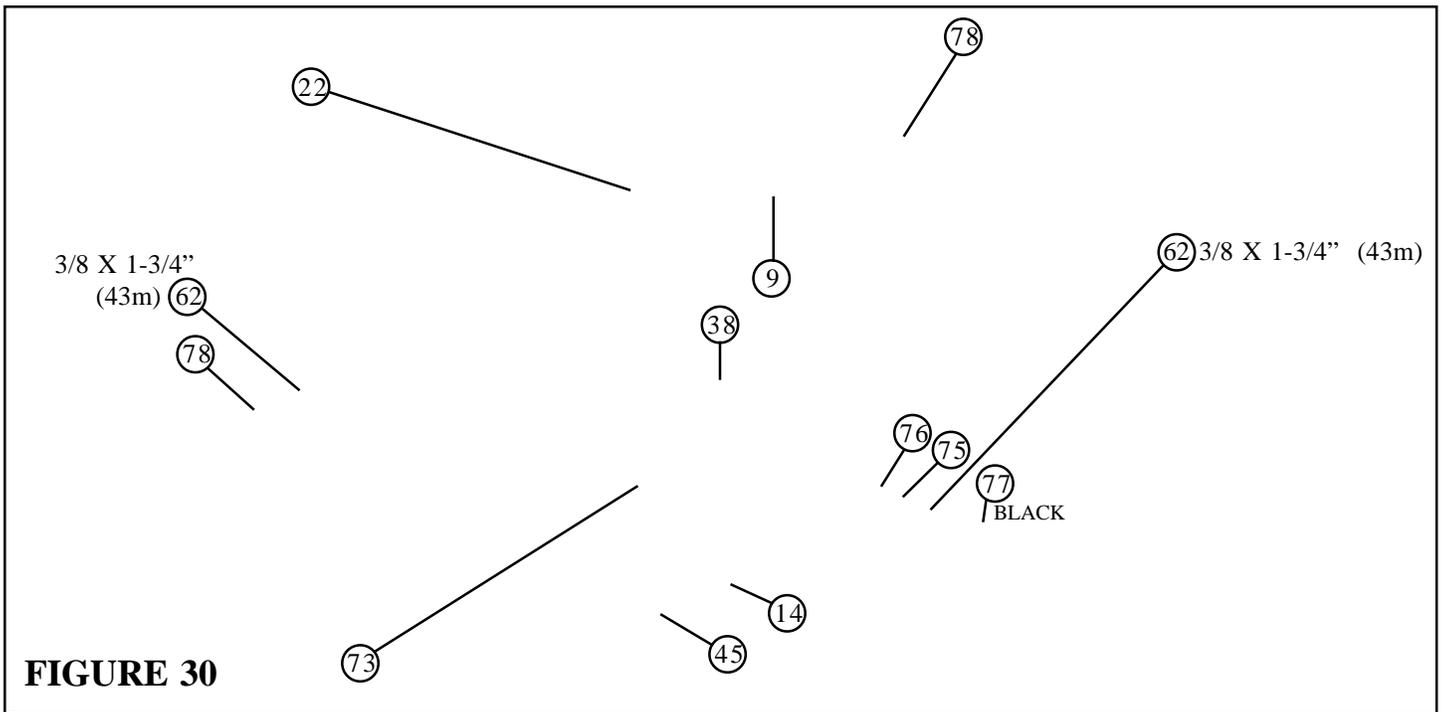

**FIGURE 29**
- **SECURELY** assemble two 4-1/2" PULLEYS (38) to the BOOM (8) using two BLACK RH CAPS (77), two RH CAPS (78), two 3/8 X 2-3/4" BOLTS (68), four 3/8" SAE WASHERS (75), four 3/8" RH WASHERS (76), four 3/8 X 1/2" FLANGE SPACERS (54), two 2-7/8 X 2-1/4" CABLE CLIPS (49) and two 3/8" LOW HEIGHT LOCK NUTS (73) as shown in FIGURE 29.
- Slide one WEIGHT STACK PIN (33) over the STEM on the HEAD PLATE (29) as shown in FIGURE 29.
- Screw the threaded end of the LAT CABLE (44) all the way onto the end of the STEM on the HEAD PLATE (29) and tighten jam nut securely. See FIGURE 29.